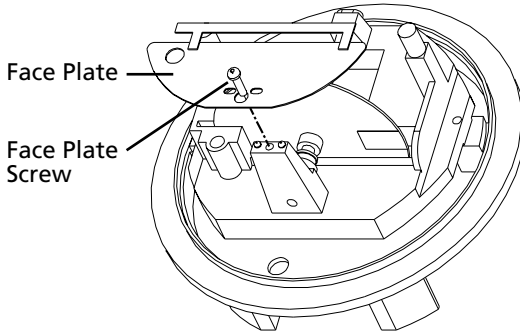

Figure 34. Removing Face Plate
2. Remove the face plate screw and face plate. See Figure 34.